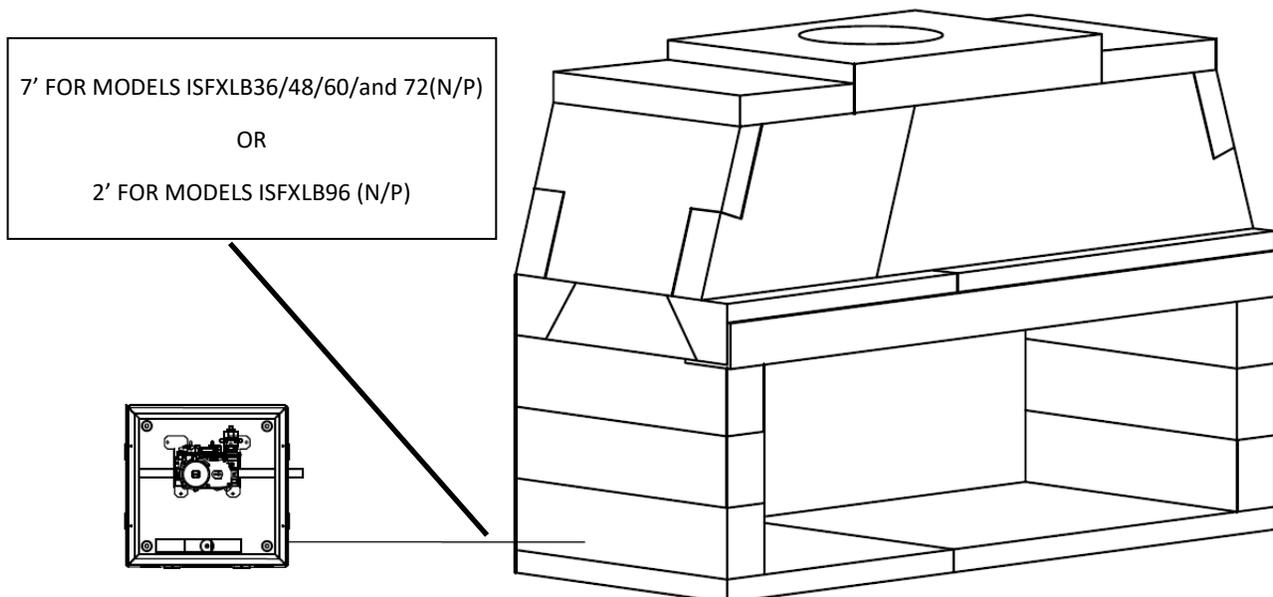

FIGURE 43
- 1) The valve control box comes with an 110" pilot assembly lead; therefore, the box must be mounted within 7' of the fireplace for models ISFXLB36/48/60/72 and within 2' for model ISFXLB96. (**Figure 43**). This location should be within 4' (48") of the Meridian Control Panel. Valve controls are contained in a 12" x 12" x 4" NEMA 1 enclosure.